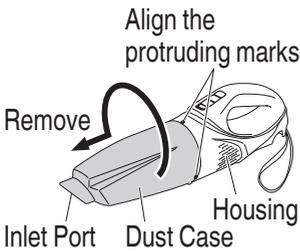

Fig. 5
- Remove the dust case (**Fig. 5**)